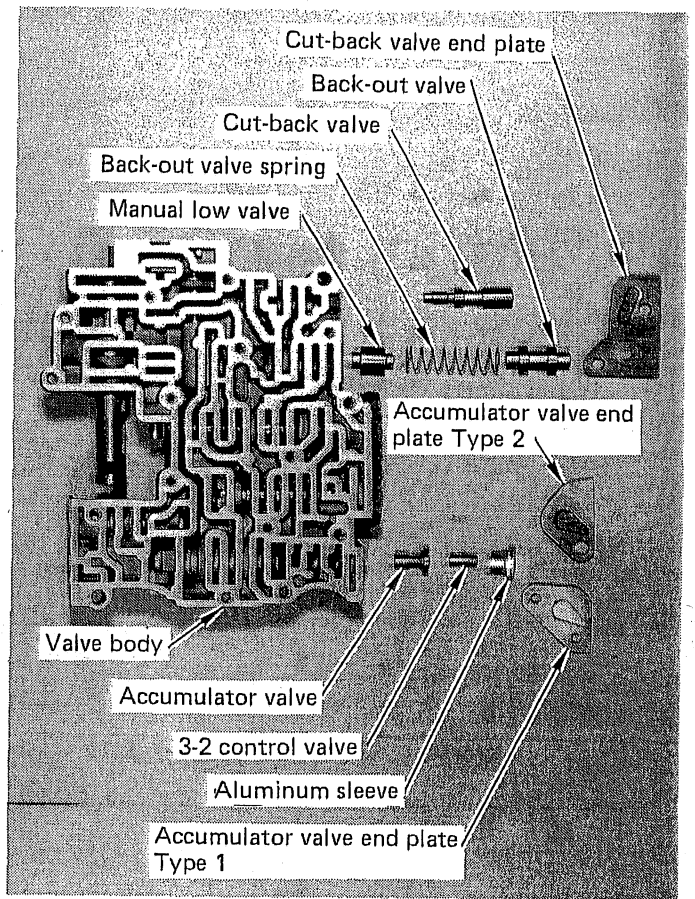

FIGURE 7
STEP 9. Remove the accumulator valve end plate. (See Fig. 7) This plate is held on with one bolt or two countersunk Phillips head screws. Note how your plate is mounted and remove it. Remove aluminum sleeve and small rod-shaped 3-2
Street/Strip: Remove the cut-back valve end plate bolts and end plate. (See Fig. 7) Remove the cut-back valve. Install the 3/16" diameter steel ball from the kit into the cut-back valve bore. Install the cut-back valve as removed. The end of the valve should be below the surface of the casting. If it is not, grind a sufficient amount off the small end of the valve.